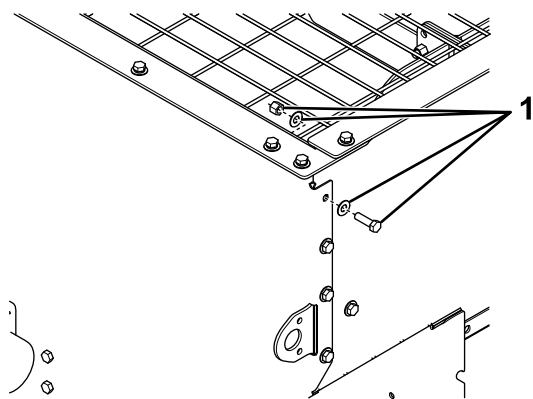

Figure 7
19. Remove and discard the top fasteners on the back end of the hopper sides as shown in Figure 7.